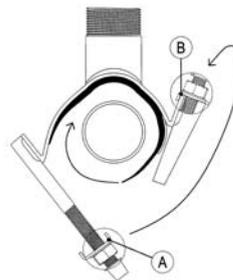

Fig. 2.
2. Screw the nuts up to the ends of the bolts, but without screwing them off. Open the clamp and wrap it around the pipe (Fig. 2). On the RS2, hook one side of the lifter bar to the top part of the lug.
3. Hook the lifter bar (on the RS2, the remaining lifter bar) to the top part of the lug (from A to B in Fig.2). Check that the band is correctly located and that the clamp gasket is wrapped around the pipe without creases. Press the parts together and tighten the nuts by hand.